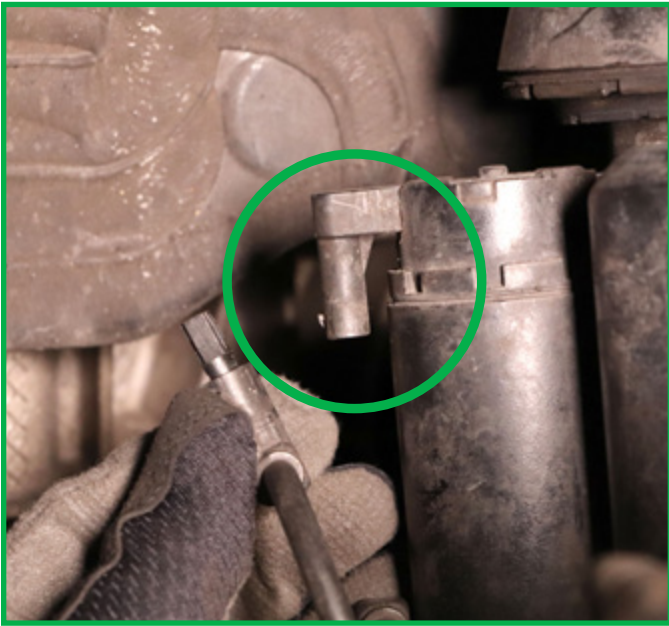

FIGURE 6
6. Disconnect the two (2) electrical connectors from the strut. (Figures 6, 7)